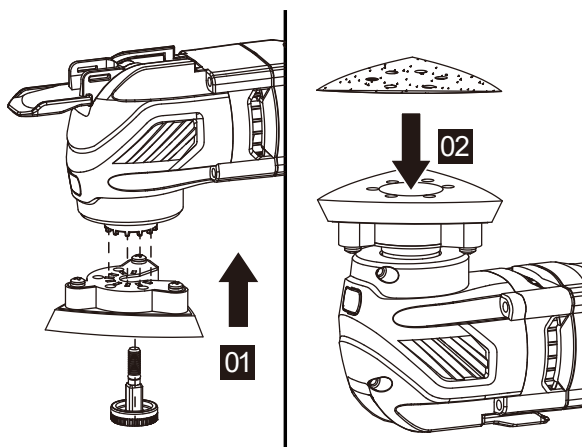

Figure 2
2. ASSEMBLING/CHANGING THE SANDING SHEET (SEE FIG. 2)